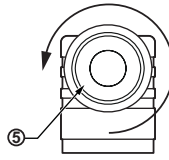

Figure 7.
- Loosen the screwed conduit adapter ⑤ M16x1.5. See Figure 7.